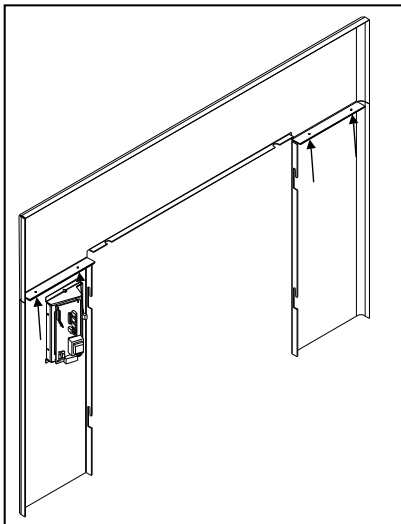

Figure 32: Assembled Surround Panel.
1. To assemble the surround panels, lay the panels face down on a soft flat surface and align the outer edges of the sides with the top panel. Using four (4) T-20 screws up through the side panels into the top (see Figure 32).